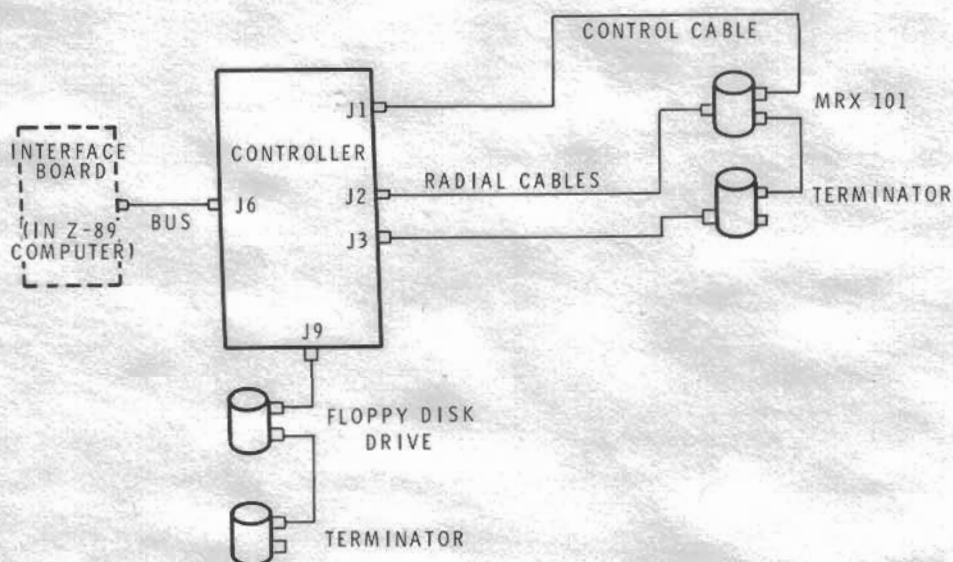

Figure 2-1
Refer to Figure 2-1. The controller and data separator comprise a single PCB. A maximum of (4) drives may be connected to the controller. The floppy control cable is connected to connector J9. The Memorex 101 control cable is connected to connector J1. The radial cable from the Memorex 101 is connected to either J2, J3, J4, or J5. Connector J6 is connected to the host interface board. All cables are the mass terminated type.